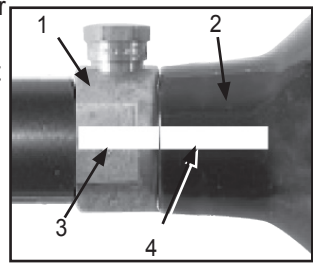

Figure 9: Properly marked Valve and Cylinder
The brass or nickel plated cylinder valve (figure 9, #1) is intended to be permanently attached to the air or CO₂ cylinder (2). An air or CO₂ cylinder can fly off with enough force to cause serious injury or death if the cylinder (2) unscrews from a cylinder valve (1).
Refer to Figure 9. There have been reported incidents caused by players unknowingly unscrewing the cylinder (2) from the cylinder valve (1). This occurs when the player thinks the entire valve-cylinder assembly is being unscrewed from the air supply adaptor of the paintball marker, when in fact they are unscrewing the cylinder from the cylinder valve.
4. Watch the marks on the cylinder and cylinder valve (as shown in Figure 9 on page 13) as you turn the cylinder approximately $\frac{3}{4}$ turn counterclockwise. This allows the air supply pin valve to close so that no air will enter the marker.